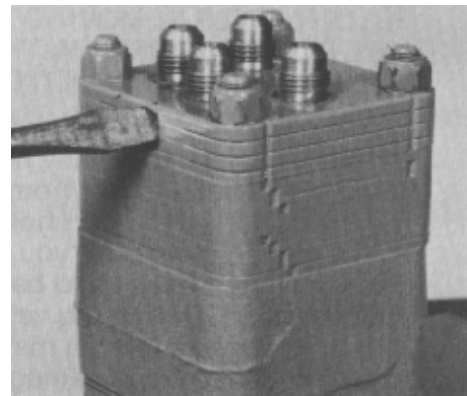

Figure 45
2. Use a slot type screwdriver or screwdriver socket to loosen the plug assembly one turn counterclockwise. (Fig. 45). Do not remove the plug assembly.